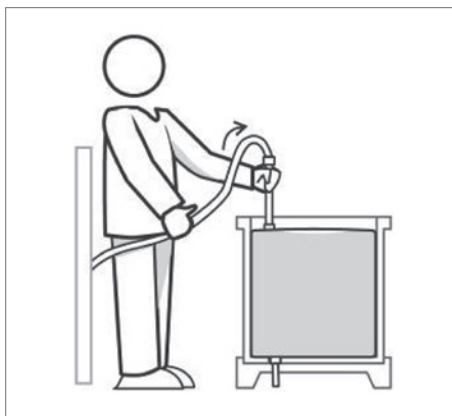

Fig. 20
7. If you have chosen to fill through the top, empty the liquid contained in the filling line into the bag by raising the tube vertically over the bag (see Fig. 20).